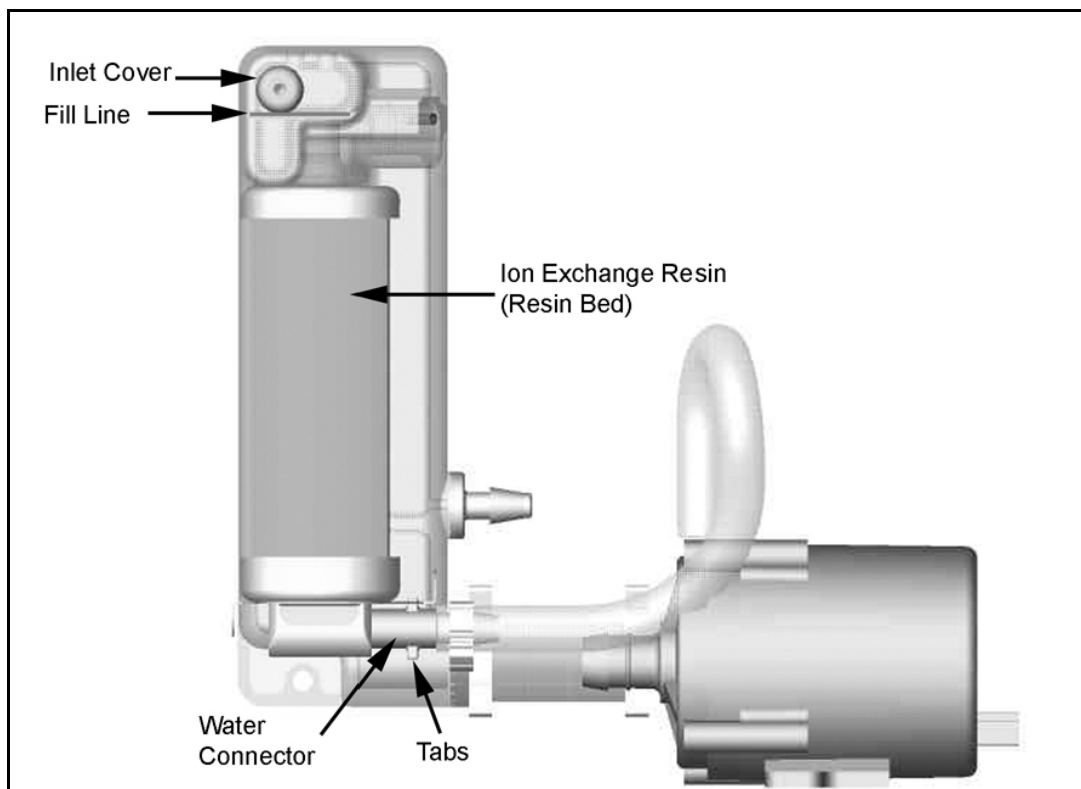

Figure 33: Resin Bed Connections
5. Open the Analyzer case and locate the resin bed. The resin bed sits slightly in front and to the left of the DI reservoir. (See Figure 33 for positioning of the elements in the resin bed that are discussed in the following steps.)